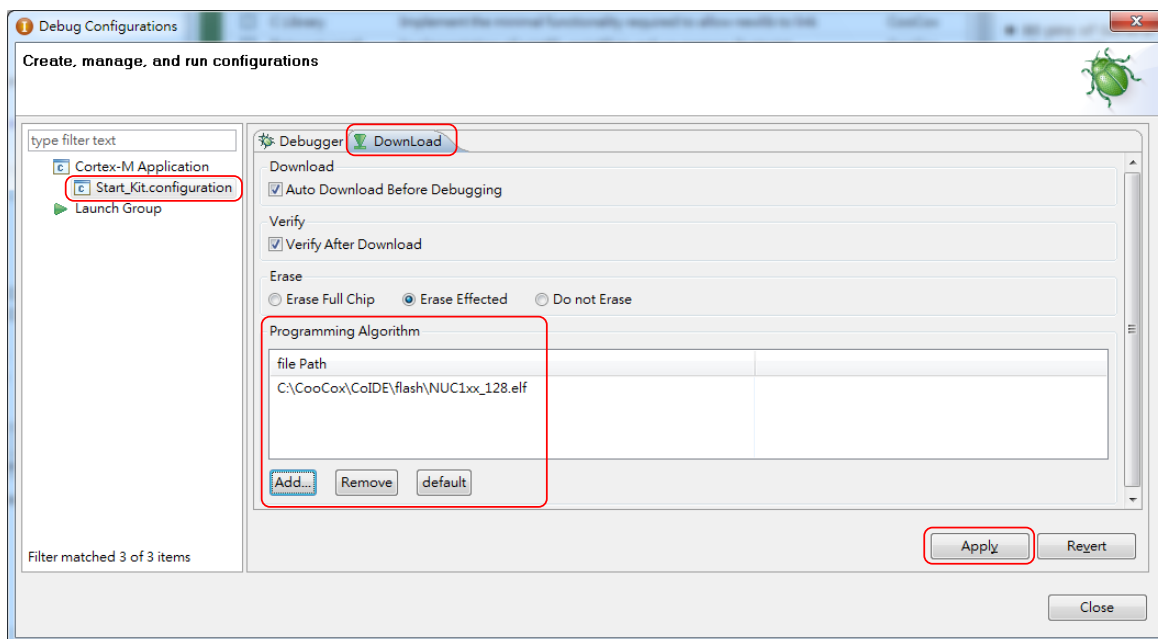

Figure 4-21 CooCox CoIDE Programming Settings
Step 4: In the **Download** tab of the *Debug Configurations* form (through invoking **Debug** → **Debug Configurations**), select the **Auto Download Before Debugging** or **Verify After Download** option to proceed with a specific programming, and set the Programming Algorithm path as “C:\CooCox\CoIDE\flash\NUC1xx\_128.elf”, as shown in Figure 4-21.
Step 6: At last, click **Apply** to save the settings, as shown in Figure 4-21.